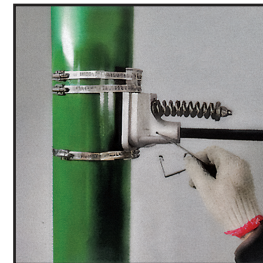
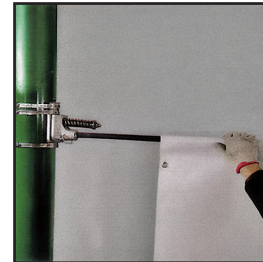

FIGURE 2
FIGURE 3
STEP 3: Insert pin through nose and fiberglass arm (Figure 2). Finish with zip tie through grommet (Figure 3.)